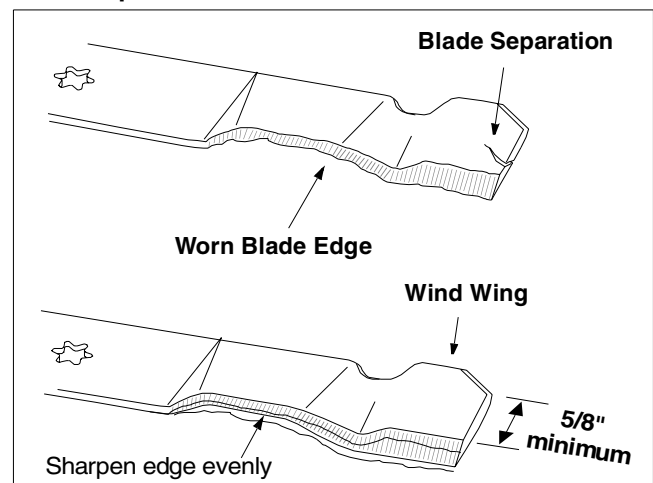

Figure 10
- Remove equal amounts of metal from both ends of the blades along the cutting edges, parallel to the trailing edge, at a 25° to 30° angle. See Figure 10 .
if any metal separation is present, replace the blades with new ones. See Figure 10 .